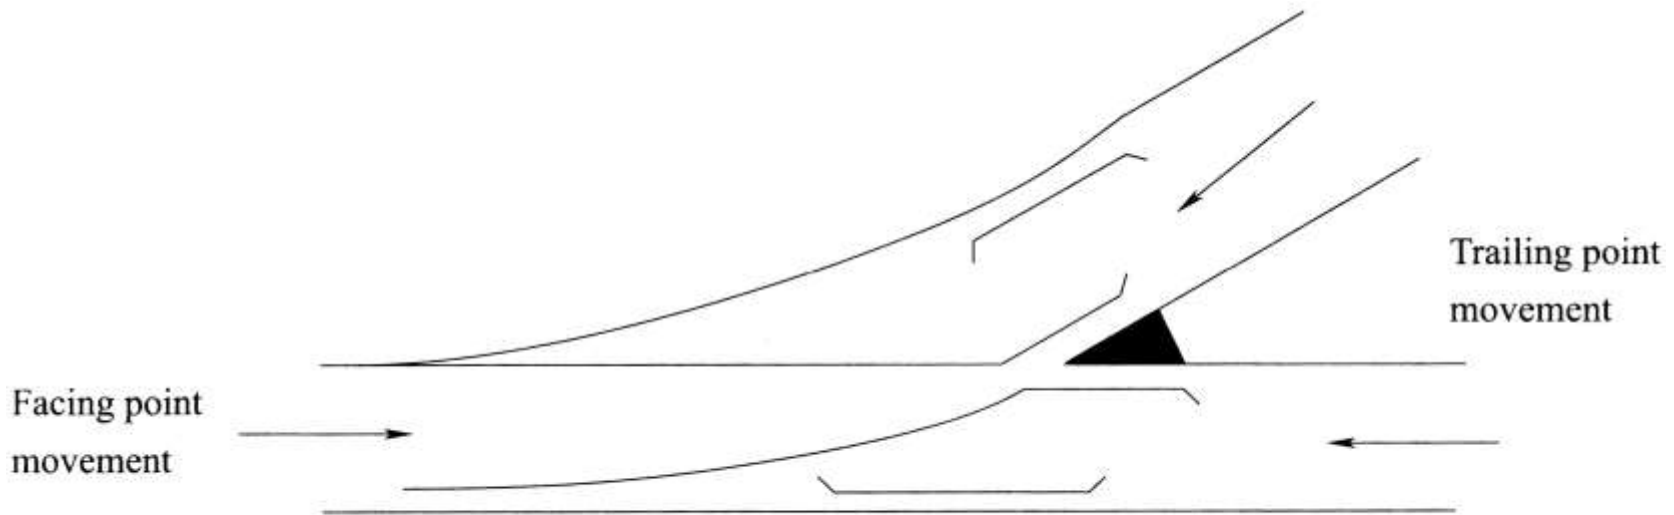

Fig. 1.4 Movements on points
- ◆ Movements on a turnout where the points face approaching traffic are called “**facing point movements**” where the frog faces approaching traffic are called “**trailing point movements**” (Fig.1.4).